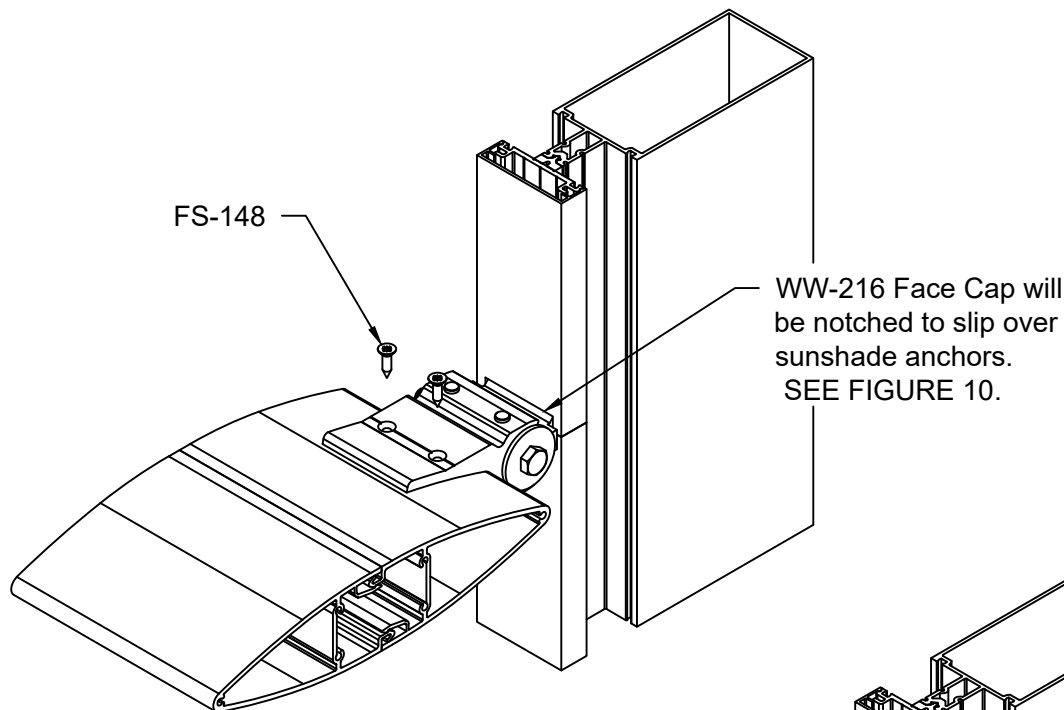

FIGURE 9
- 9) Blades are attached to the SS-208 mounting arm using four (4) FS-148 (#10 x 3/4" UCPFH St. Steel) fasteners. (SEE FIGURE 9)